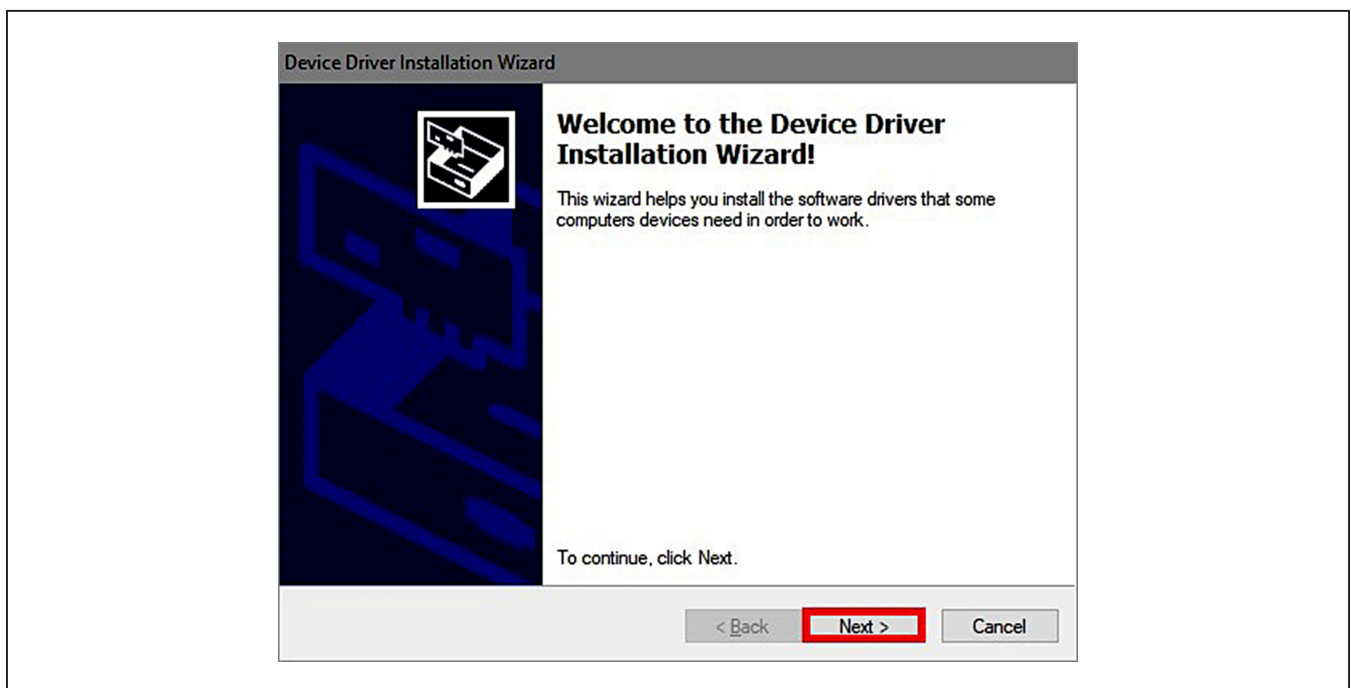

Figure 7. Device Driver
- 8) Click on **Next** (Figure 7) when the **Device Driver Installation Wizard** appears.